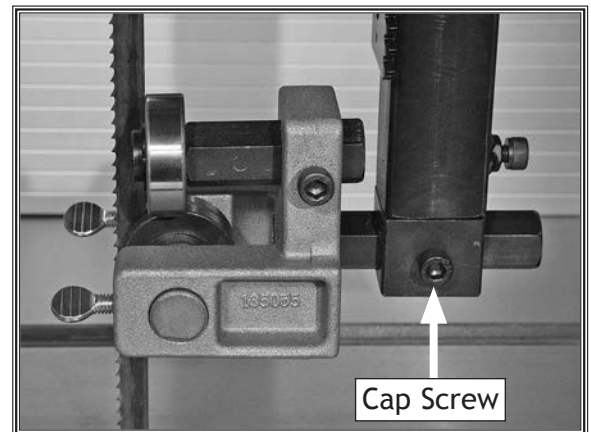
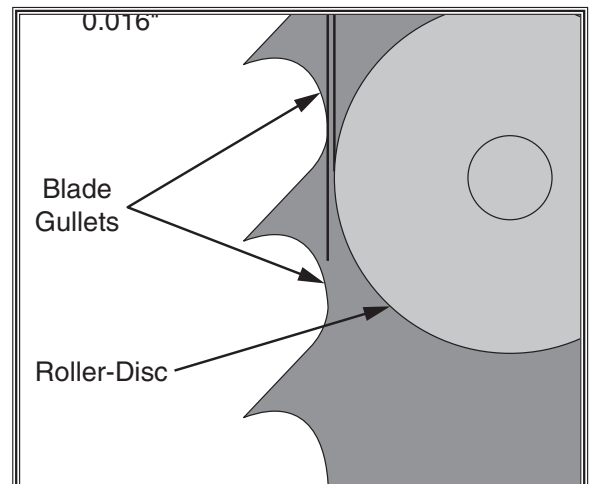

Figure 47. Location of guide block adjustment cap screw (guide post cover removed for clarity).
Figure 48. Roller disc positioned just behind blade gullets.
2. Loosen guide block adjustment cap screw shown in **Figure 47**, then position roller discs just behind blade gullets, as illustrated in **Figure 48**. Retighten cap screw to secure setting.